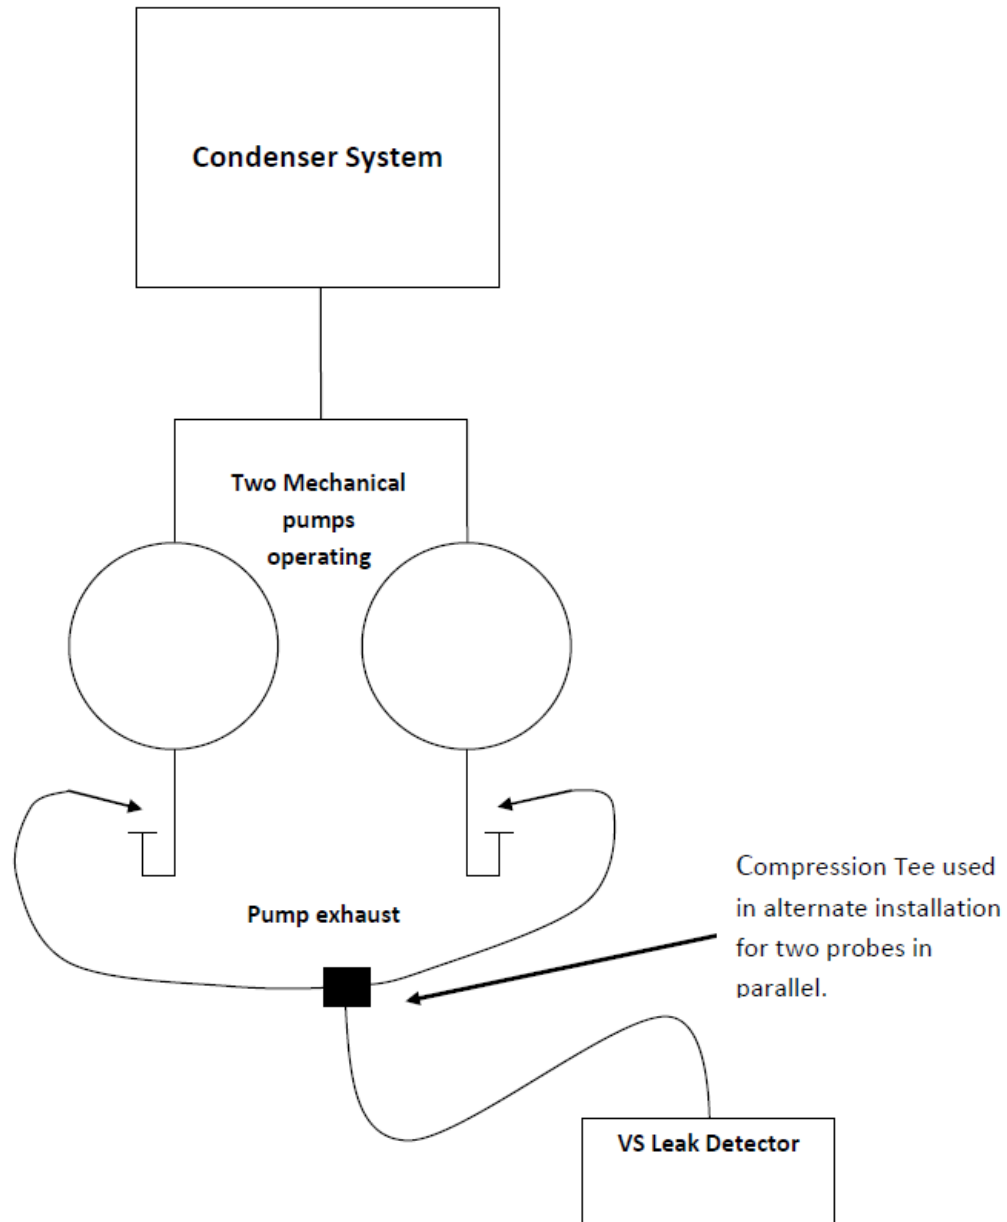

Figure 8 Two Vacuum Pump HE Probe Installation
- When used in the pump exhaust of two-pump installations, two probes can be connected together in parallel using a compression tee and a second probe assembly. (See Figure 8 on page 11).